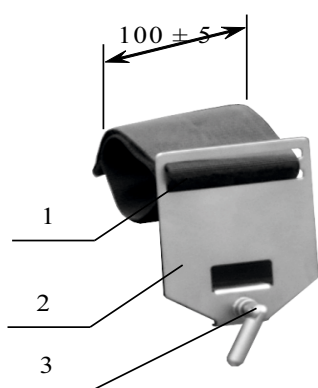

Figure 5. Arm holder.
5. Arm holder (arm retainer) (Figure 5). 100 mm wide soft synthetic strap with a clamp and stainless steel fastening element to the table rail, adjustable position along the table panel.